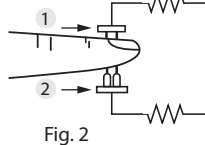

Fig. 2
2. Red and Infrared-ray Emission Tube. (fig.2)